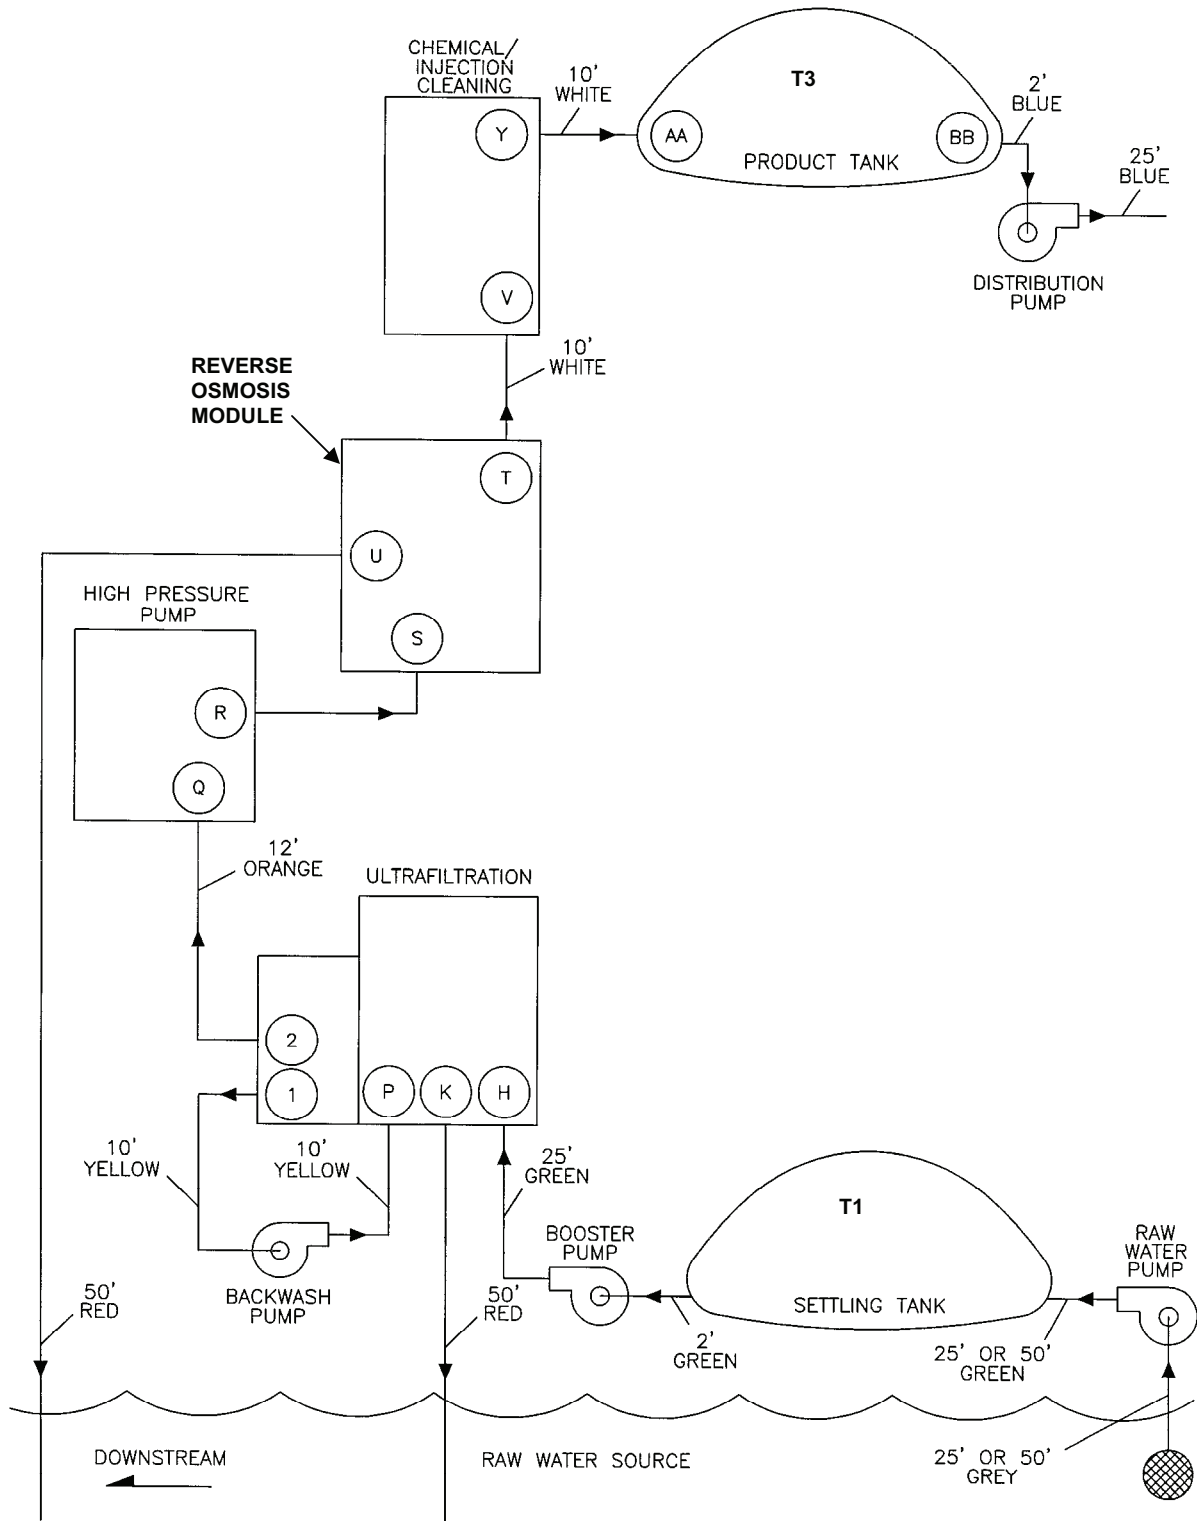
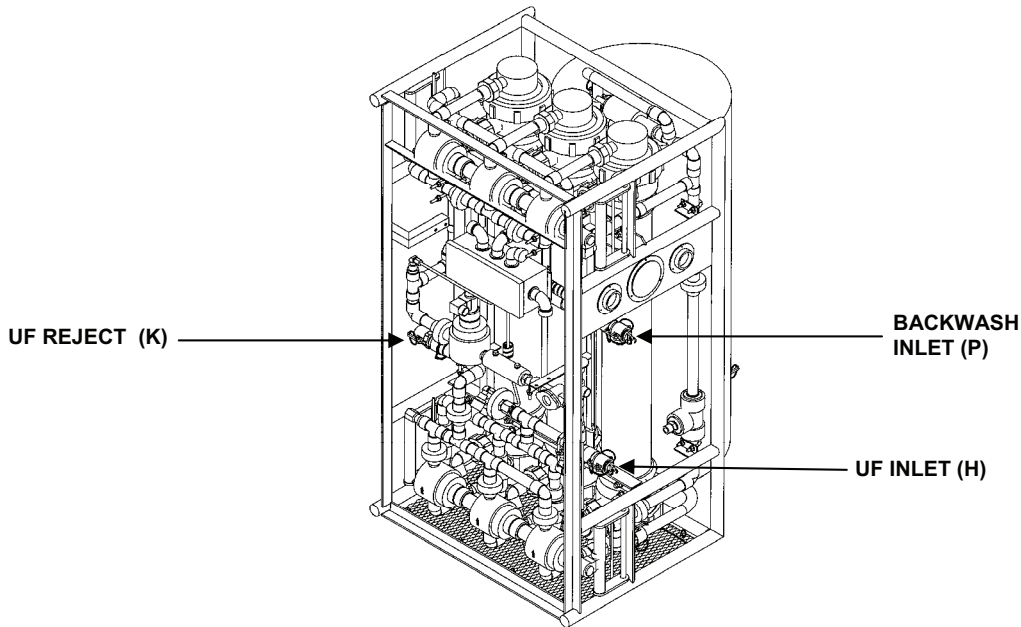
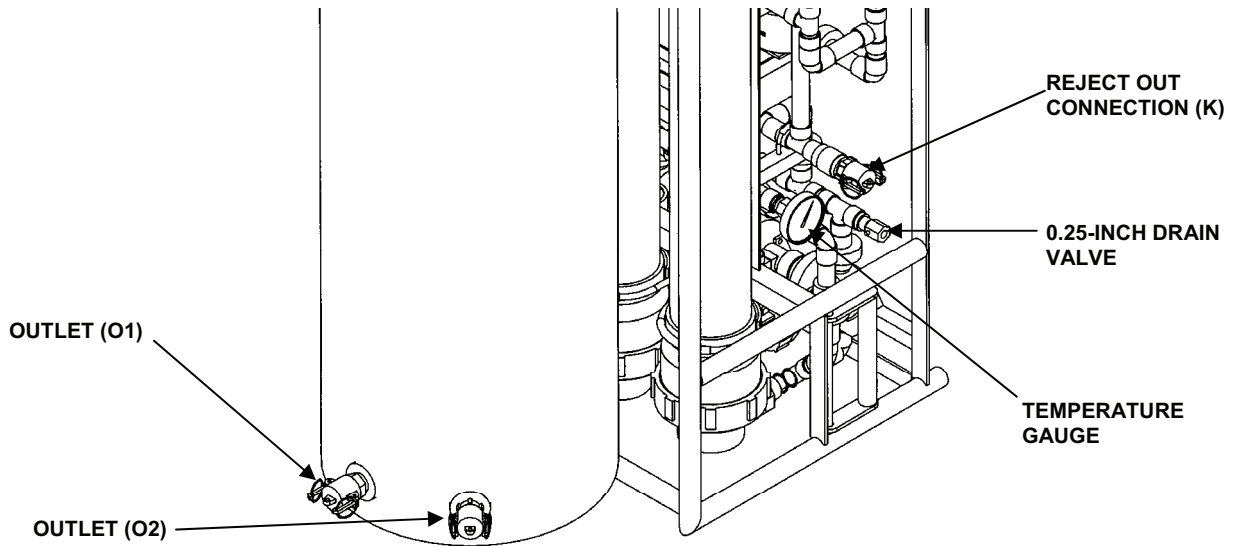
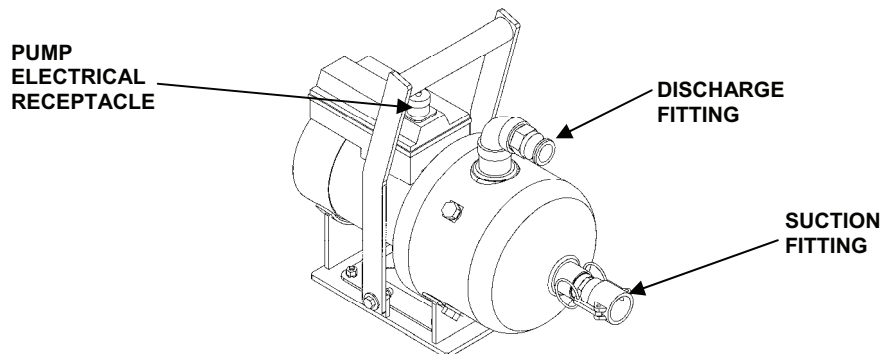

Figure 1. Normal Operation Piping Layout.
Figure 4. UF Module Connection.
Figure 5. Filtrate Tank Outlet Connections.
Figure 8. Backwash Service Pump.
1. Figure 1 shows the general piping layout for the LWP.
2. Place the booster pump close to the settling tank outlet spool piece. See Figure 1.
6. Connect the other end of the fabric hose (green) to the feed inlet Ultrafiltration (UF) module (H). If needed, use the last section of fabric hose (green) to reach the UF module. See Figure 4
9. Attach one end of the High Pressure (HP) pump feed hose (orange) to the outlet connection (O2) of the filtrate tank on the UF module. See Figure 5.
- 14. Position the backwash pump by the filtrate tank of the UF module. See Figure 1 and Figure 8.
15. Connect a section of hose (yellow) from the fitting on the fabric filtrate tank outlet (O1) to the suction fitting of the backwash pump. See Figure 1, Figure 5 and 8.
16. Connect a section of hose (yellow) from the backwash pump discharge fitting to the backwash inlet (P) on the UF module. See Figure 1, Figure 4 and Figure 8.
37. Place the distribution pump by the product tank outlet spool piece. See Figure 1 and Figure 8.